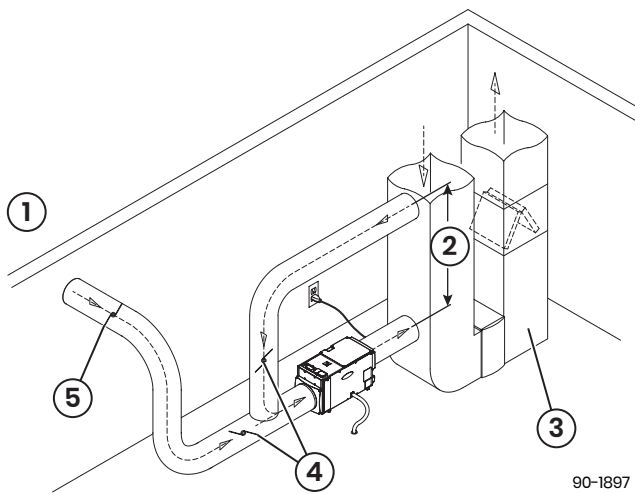
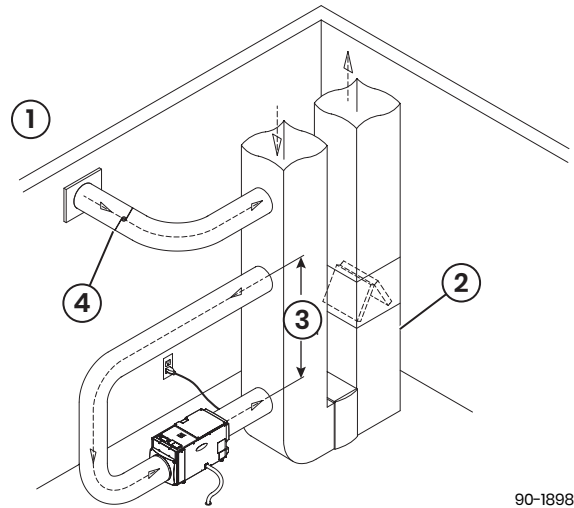

Figure 23: Onboard Control Ventilation Installation
Figure 24: External Control Ventilation Installation
1. Install the Fresh Air Inlet (FAI) duct and damper as shown in **Figure 23** and **Figure 24**.